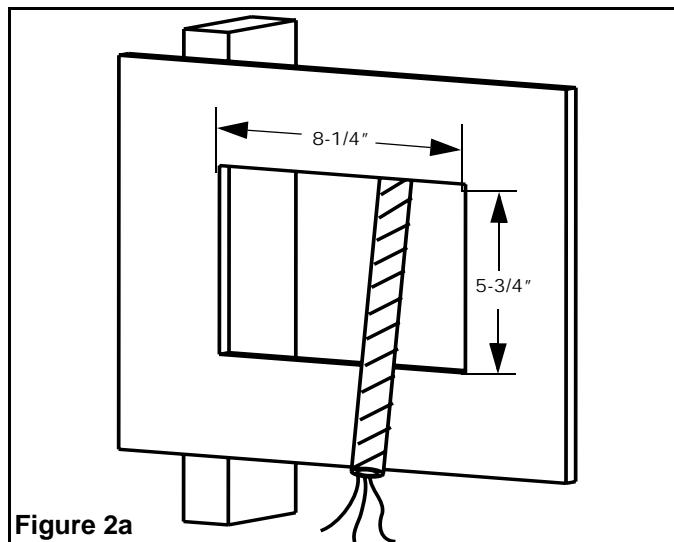

Figure 2a
"U" Bracket Installation in the wall (Figures 2a, b, c)
1. Cut a rectangular opening (8-1/4 inch by 5-3/4 inch) next to the ceiling joist. The opening must have the short side along the joist. Use the "U" bracket to mark the dimensions on the ceiling (Figures 2a, b, c).